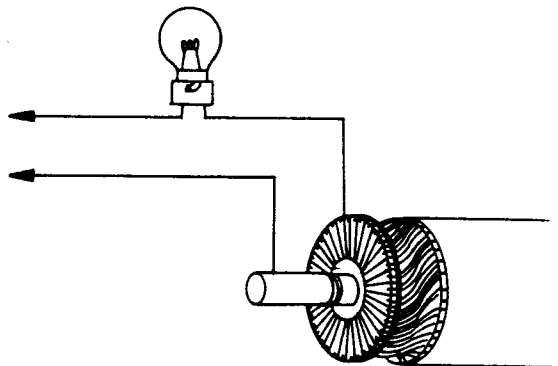

Fig O6.15
7. Refer to Fig O6.15. Check armature insulation by connecting a 110 V ac supply in series with a 15 W test lamp between the armature shaft and each commutator segment in turn. For satisfactory insulation the lamp should not light.